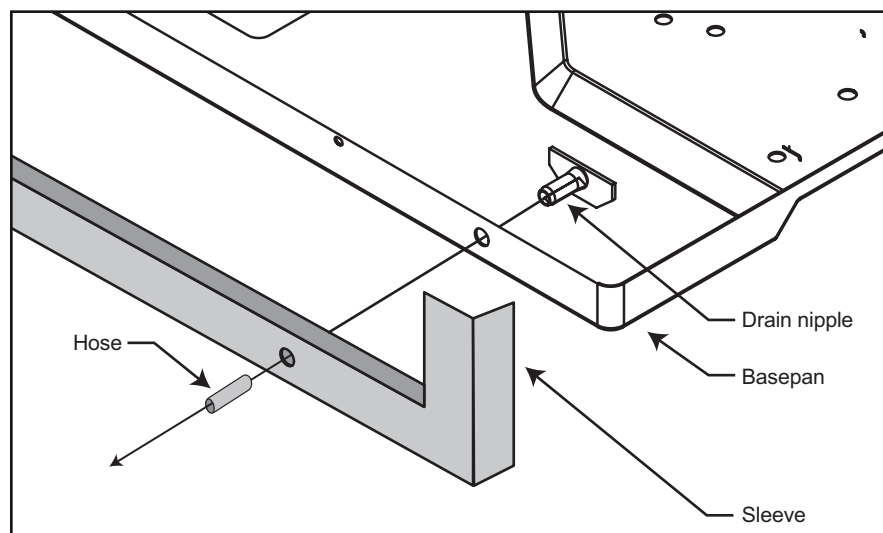

Figure 13
- STEP 1. Find the drain plate on the rear of the basepan and remove it. (See Figure 13).